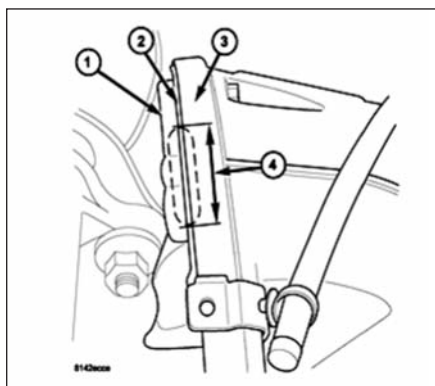

Figure 8 Thoroughly clean the immediate area around 4.0L spacer opening with throttle body cleaner and allow to dry.
2. Thoroughly clean the immediate area around the spacer opening with throttle body cleaner (p/n 04897156AA). Allow cleaner to dry (see **Figure 8**).